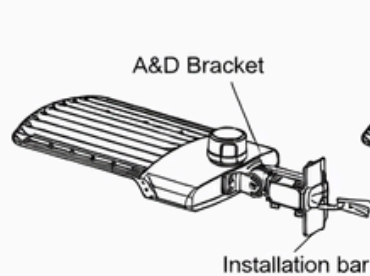

Figure 15
Step 1: Remove the four bolts of ADM bracket, remove the rubber plugs from installation bar, put the four rubber plugs on the place where the four bolts were previously placed on the bracket for waterproof purpose. (Figure 15)